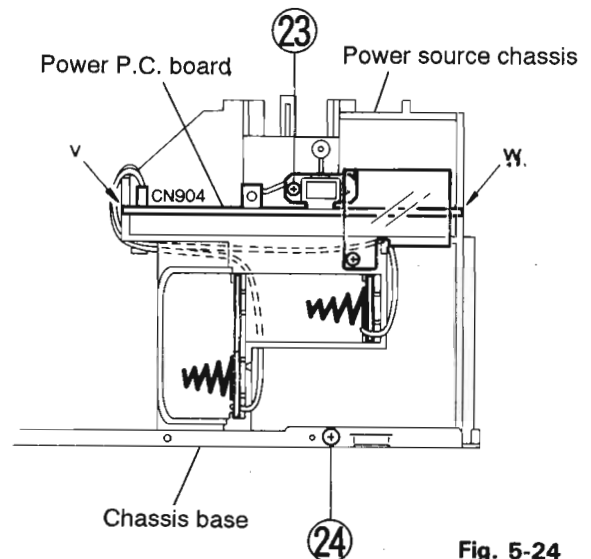

Fig. 5-24
■ How to Remove the Power P.C. Board and Power Transformer (Refer to Figs. 5-24 ~5-27)
4. Remove the one screw (23) retaining the power P.C. board.
7. Remove the screw (24) retaining the power source chassis.
9. Remove the four screws (25) retaining the power transformer.